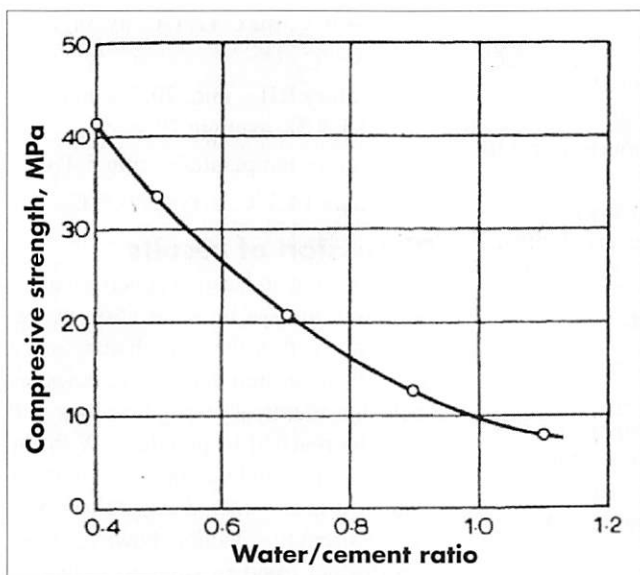
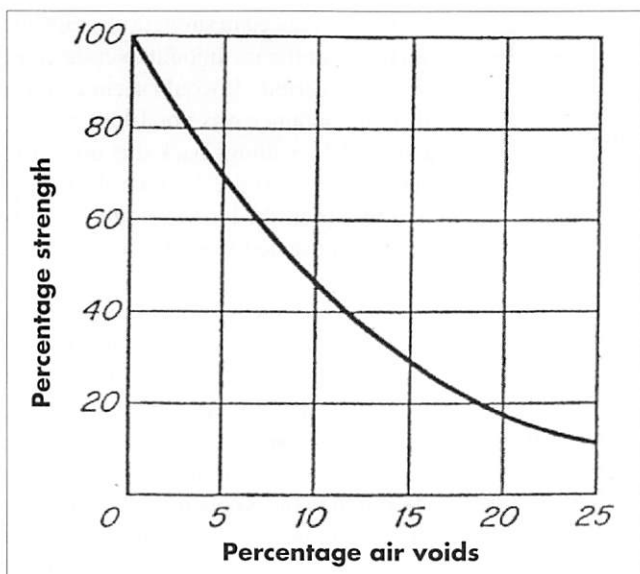

Fig. 2 Relationship between strength and water/cement ratio in Portland cement (Neville, 1995).
Fig. 3 Loss of strength due to air voids (Everett, 1970).
1) *Cement/water ratio.* This may be expressed as the mass of water to the mass of cement. In simple terms, when the quantity of water in a mix increases in relation to the quantity of cement, the strength of concrete decreases as shown in Figure 2 (Taylor, 1994). Below a ratio of 0.4, a large part of the cement never hydrates due to inadequate space and/or water quantity. Above a ratio of 0.4, the expansion of hydrated cement is insufficient in volume to fill the space previously filled with water. The resulting concrete will be porous, *i.e.* containing voids. Figure 3 shows that for every 1% of voids, the strength is reduced by around 5%, a most important practical point.